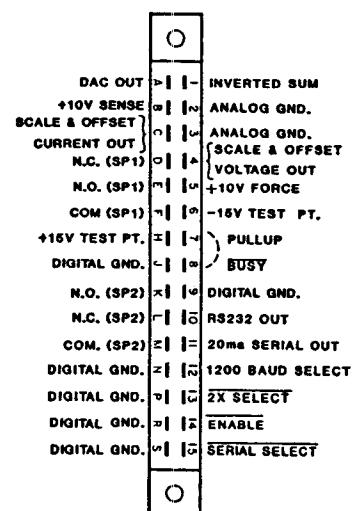

Figure 4C. P2 Edge Connector Option R (Relays Output) and Option A (Analog Output) and Option S (Serial Output)
Figure 4C depicts the connections made to the P2 Edge Connector on the "A" (Analog Output) and/or "S" (Serial Output) Option Board. Option R (Relays Output) pin configuration, as shown, is valid only when installed in conjunction with Option A and/or Option S.
2.8.3 Bipolar, Unipolar Connections (refer to Figure 4C)